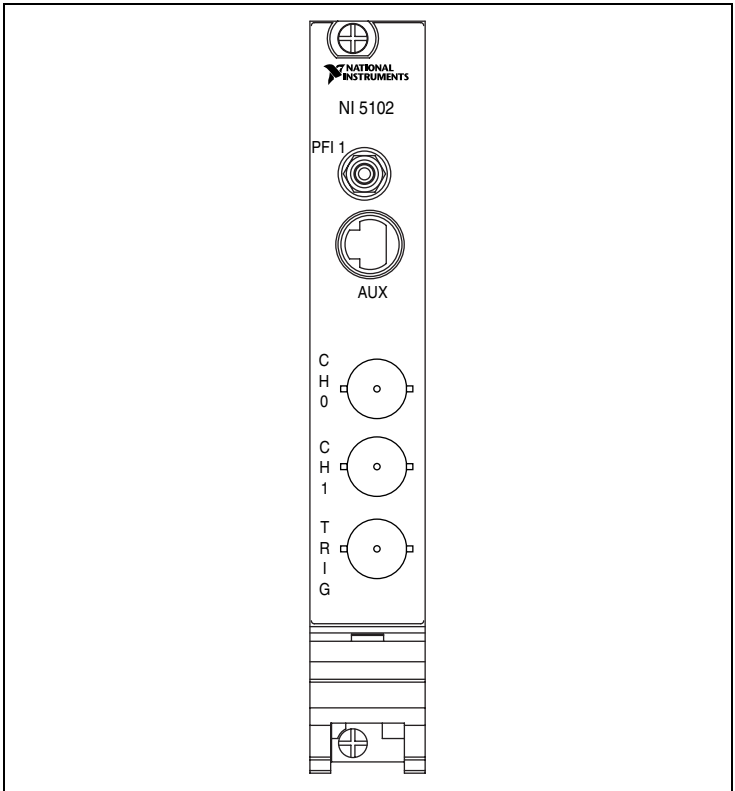
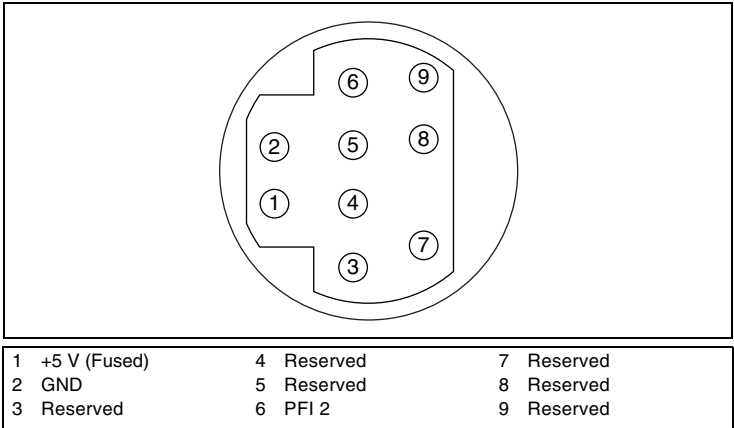
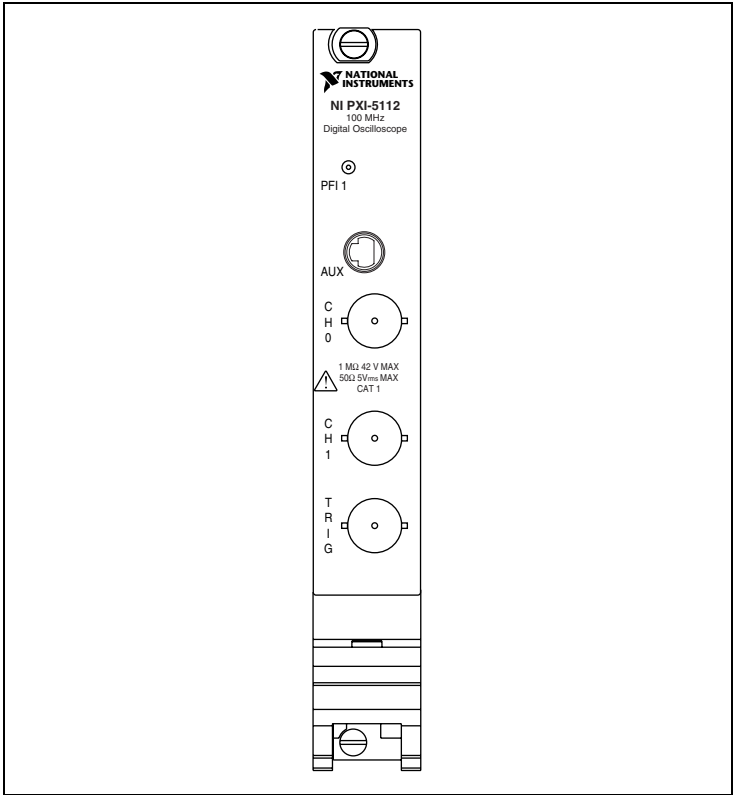
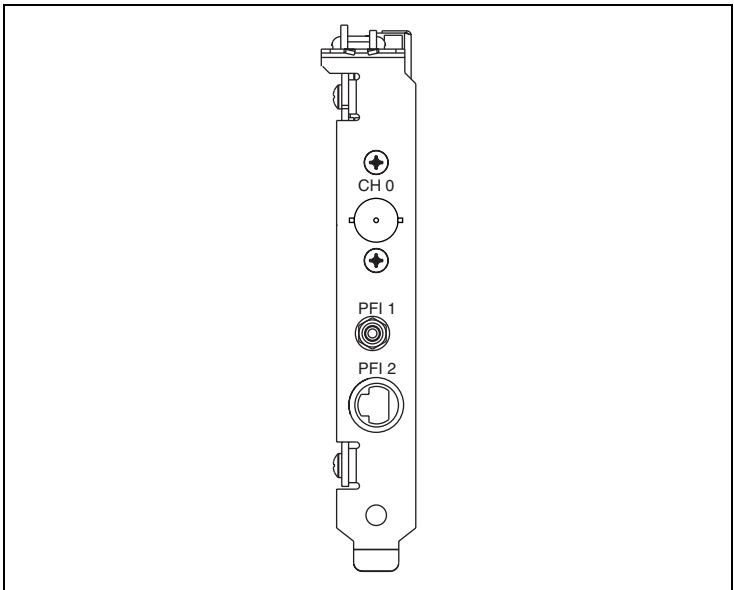

Figure 8. NI PXI-5102 Front Panel Connectors
Figure 9. 9-Pin DIN Connector for NI PXI-5102, NI PXI/PCI-5112, and NI 5911
Figure 13. NI PXI-5112 Front Panel Connectors
Figure 18. NI PCI-5911 Front Panel Connectors
- ◆ **NI PXI-5102**—Figure 8 shows the NI PXI-5102 front panel. Refer to Figure 9 for the AUX connector pinout information.
| AUX | 9-pin mini-circular DIN connector | Access to PFI 2 (with optional cable). Refer to Figure 9 for pinout information. |
Figure 9 shows the pin assignments for the 9-pin mini-circular DIN connector on the NI PXI-5102.
The NI 5112 is available for both PXI and PCI buses. Figures 13 and 14 show the front panels for the NI PXI-5112 and the NI PCI-5112, respectively. Refer to Figure 9 for the AUX connector pinout information.
Figure 18 shows the NI 5911 front panel. Refer to Figure 9 for the PFI 2 (AUX) connector pinout information.
| PFI 2 (AUX) | 9-pin mini-circular DIN connector | Access to PFI 2 (with optional cable). Refer to Figure 9 for pinout information. |